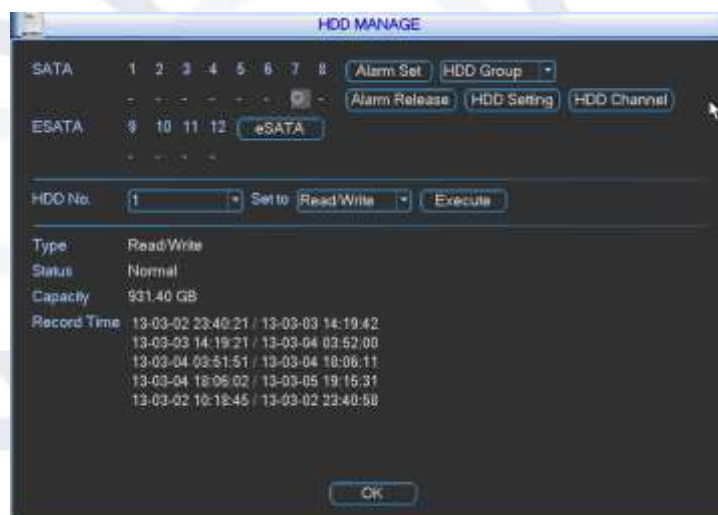

Figure 5-62
These options allow you to view and implement hard disk management. See Figure 5-62.
- **Alarm set:** Click alarm set button, the interface is shown as below. See Figure 5-62. (This interface is just like the abnormality setup). Please refer to Chapter 5.7.4 for detailed information.
Click the button “HDD Setting” at the top right corner of the Figure 5-62, system will pop up an interface as below. See Figure 5-20.